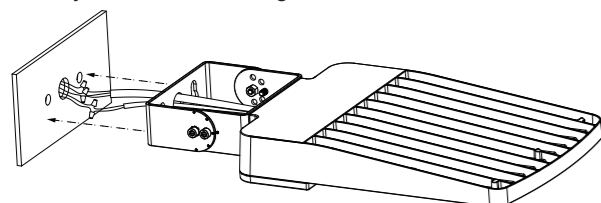

Figure 7
2. Connect the fixture input wires and dimming wires to the cable wires according to the wiring diagram, and fix the fixture as indicated by the dotted line, Figure 7.